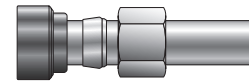
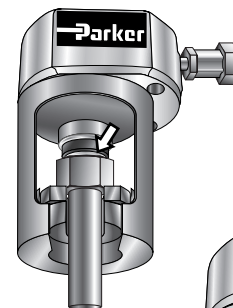

Figure 5
Figure 7
1. Assemble CPI™ nut, CPI™ Ferrule and body die onto tubing as shown in Figure 5. Be sure that the tapered end of the ferrule point toward the body die.
3. Insert Tube Assembly, Figure 5, into Nut Die as shown in Figure 7.